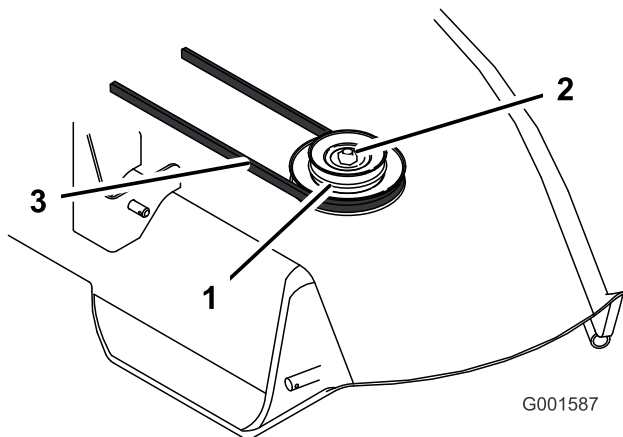

Figure 31
1. Pull on mower idler assembly to release belt tension and remove blade drive belt from right side pulley (Figure 31).
2. Remove nut and lock washer from right hand blade spindle (Figure 31). Remove double pulley.